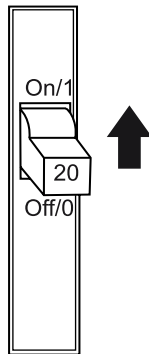

Figure 78. GFCI Circuit Breaker
2. Place a GFCI circuit breaker (Figure 78) in the **ON** position.